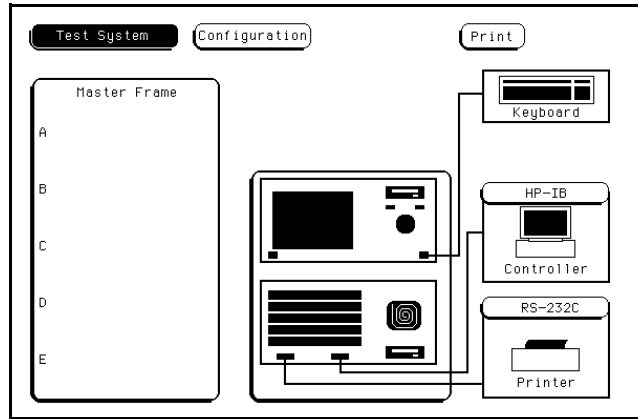

Figure 6-6. Test System Configuration
4. After the test software has been loaded, the Test System Configuration menu is displayed. See figure 6-6.